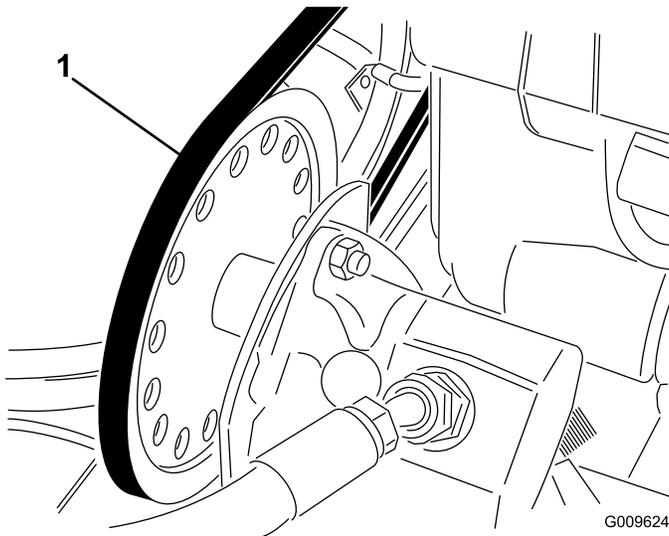

Figure 57
- A. Loosen the nuts securing the hydraulic pump to the engine frame (Figure 57).